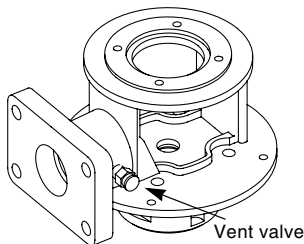

Fig. 10
2. If the pump is fitted with a vent valve, this valve must be opened, see fig. 10.